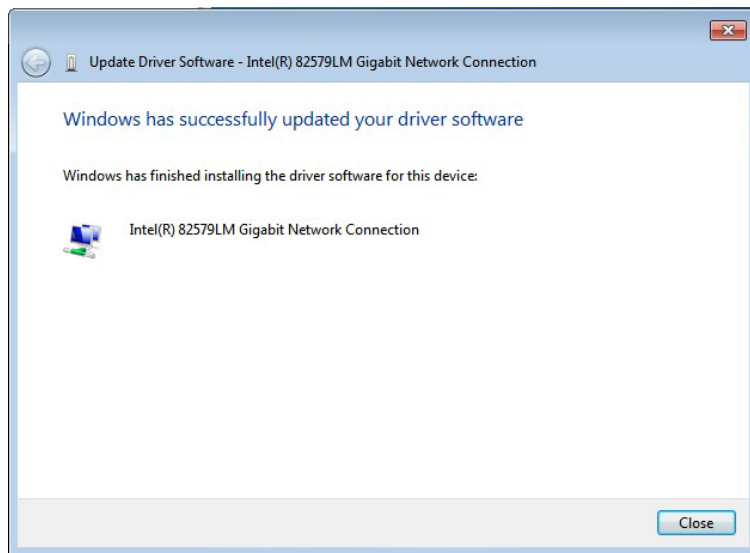

Figure 7-18: LAN Driver Installation Complete
Step 11: The **Finish** screen in **Figure 7-18** appears. Click **Close** to exit.